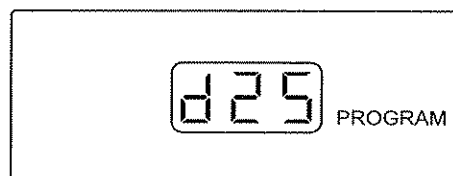

Figure 2-13
2. To adjust the Month (M) you will need to press and hold the **SET** button until the center digit flashes. The months will be displayed as (01) for January thru (12) for December. Pressing the up and down arrow buttons will adjust the value of this digit. When you have selected the number that you want press the right button to adjust the right digit in the same manner with the up and down arrow buttons. When you have the proper number displayed for the Month (M) press and hold the **SET** button for 3 seconds until the monitor beeps twice and the display flashes twice. (The monitor will now display like Figure 2-13.)